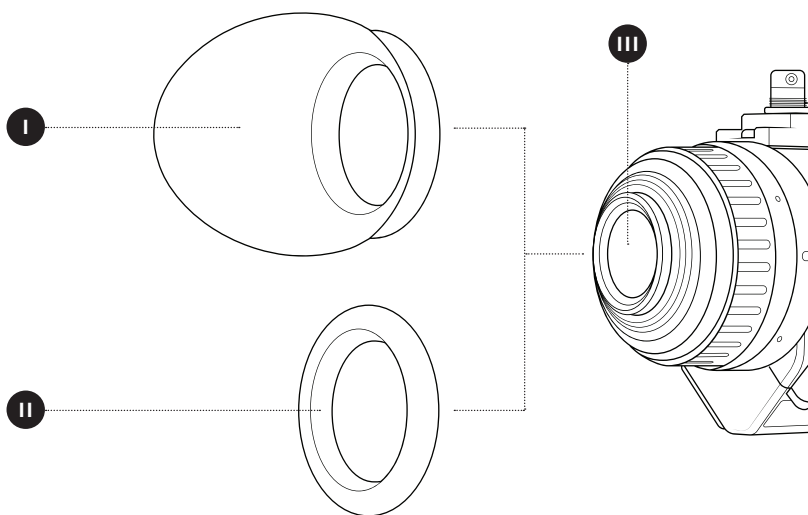

FIGURE 1:
1. OPSIN comes supplied with a protective **RUBBER EYE-CUP** and an optional **RUBBER BUMPER**. See **FIGURE 1**. NOTE: OPSIN ships with the Rubber Bumper installed. If using the eye cup, the rubber bumper will need to be removed prior to installation.